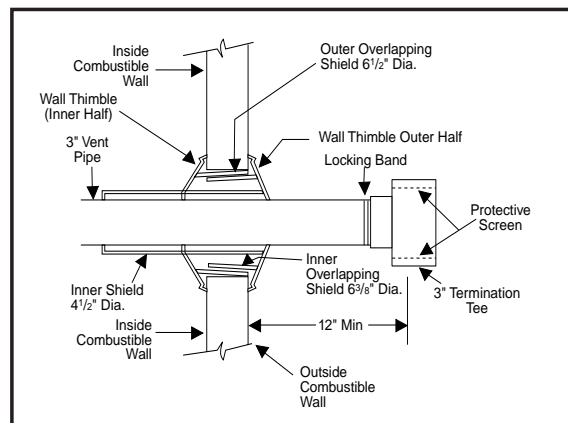

Figure 23. Typical Termination
7. Cut an 8 inch minimum piece of vent pipe and connect the coupling to the termination tee. The inside of the tee must be a minimum of 12 inches from the outside of the wall. (See Figure 23.)